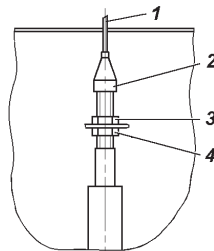

Fig. 9.8. Throttle pedal actuator adjustment
**The throttle pedal actuator** may require rope tensioning adjustment in the course of operation. To tension the rope, unscrew nut 3 (Fig. 9.8) and tighten nut 4.